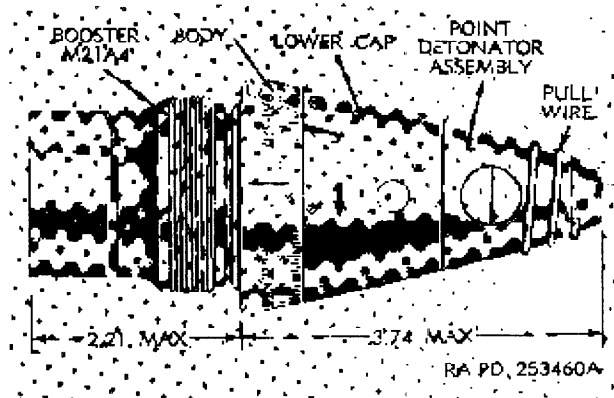

Figure 23. Fuze, MTSQ: M500A1
a. *Description.* The fuze M500A1 (fig. 23) is a combination mechanical-time and impact fuze with settings for time action (2 to 75 sec) and an impact element for superquick action. A pull wire, which extends through the fuze body and under the setback pin, provides positive safety during shipment and handling. The fuze M500 differs from the fuze M500A1 principally in having settings for time action from 3 to 75 seconds. The minimum functioning time of the fuze M500A1 is 1.5 seconds. The fuze M500A1 consists essentially of five components as described in (1) through (5) below:
- (1) *Movement assembly.* The movement assembly provides for the mechanical-time action of the fuze. It is com-